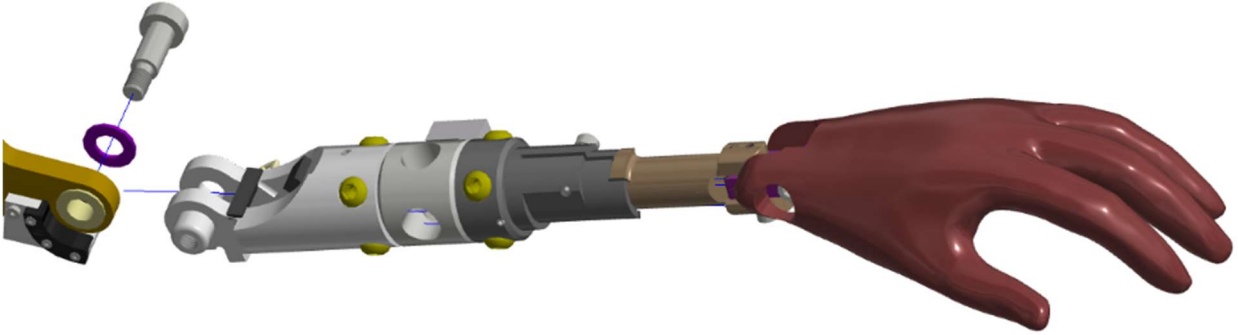

Figure 11-39. Attach the elbow joint, M10 X 20 LG. SHSS and Upper-Lower Arm Washer (474-6502)
11.3.15 Secure the M10 X 20 LG. SHSS and Upper-Lower Arm Washer (474-6502) to join the upper arm and lower arm at the elbow (Figure 11-39).